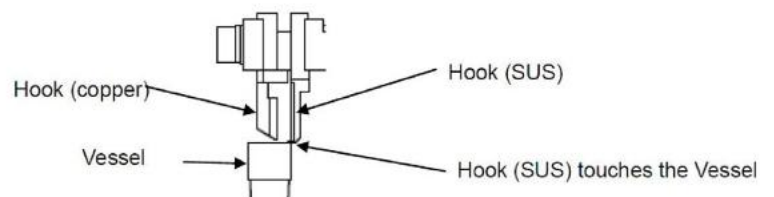

Figure 4-2 Adjustment position of the gripper height.
- Place **Jig (4)** in the Tip Buffer Position
- Perform Pulse Adjustment that the Gripper Hook (SUS) is touching the surface (Figure 4.2)
- Click “**Accept**”, “**Setup**” and remove the **Jig (4)**
- Place **Jig (5)** in the Mixer Position
- Click “**Accept**”, “**Setup**” and remove the **Jig (5)**